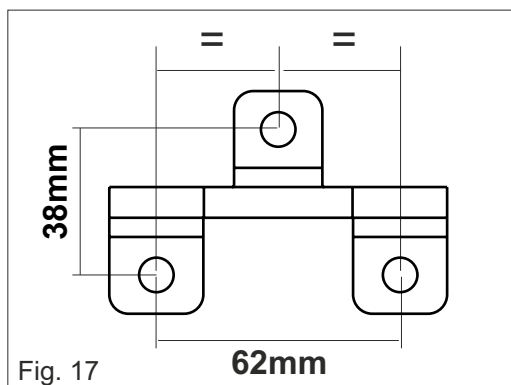

Fig. 17
- 2) Screw the front fixing bracket onto the gate in correspondence of the holes made respecting the dimensions as per Fig. 17 and Fig. 18